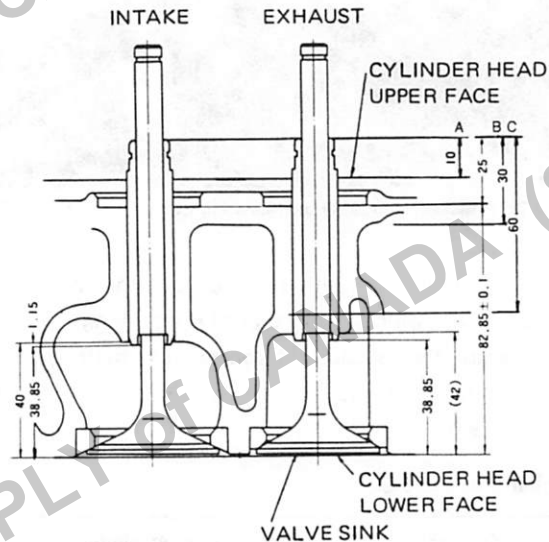

Fig. 3-2-22 Projecting dimension of valve guides
- 1) Measure with a micrometer and a cylinder gauge. Calculate the clearance between the valve stem and the valve guide from the difference between the diameters. If each measurement point (A, B or C in Fig. 3-2-22) exceeds the serviceable limit, replace either the valve guide or the valve.